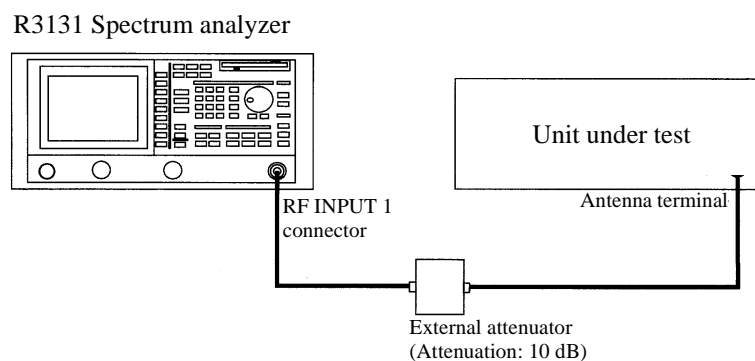

Figure 2-52 Setup for Measuring the Channel Power
1. Connect the transmitter as shown in Figure 2-52.